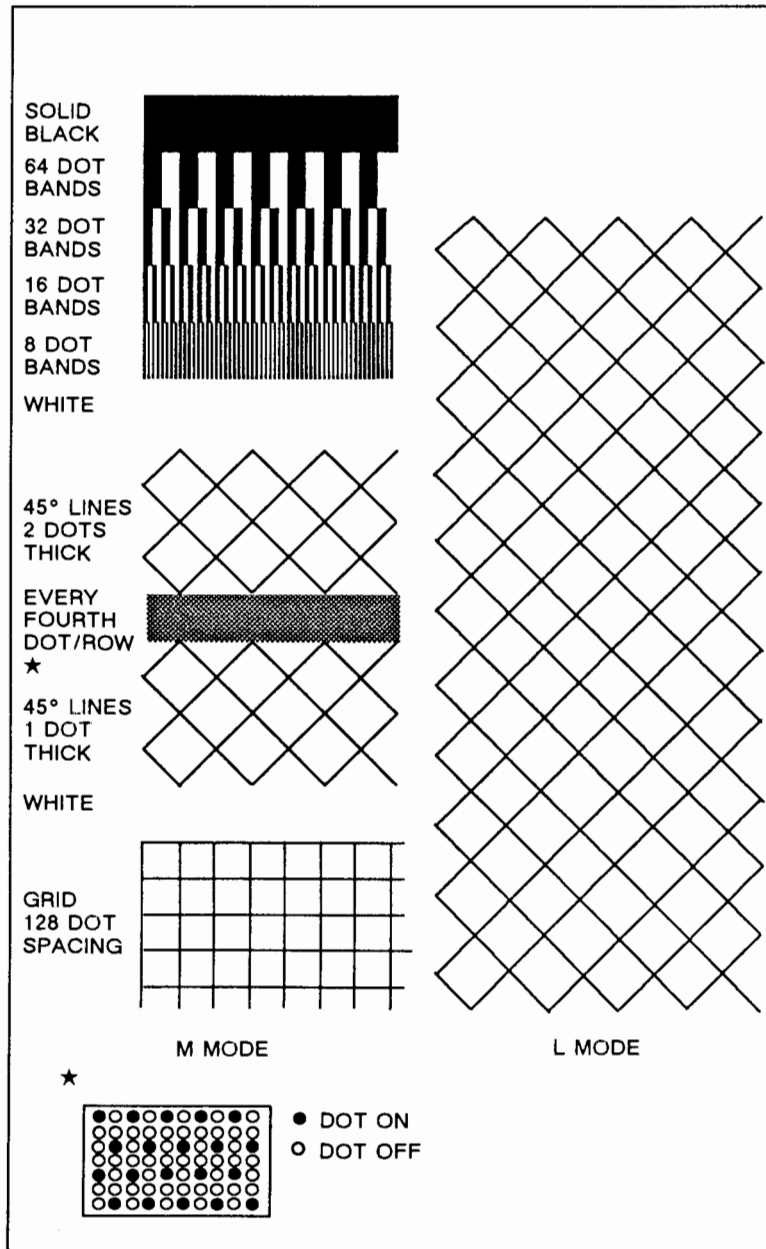

Figure 5-8. Print Engine Test Plots
- f. In a few seconds the plotter will begin to print a test pattern on the media. The pattern will be determined by the setting of the TEST L/M switch. See Figure 5-8 for samples of the test plots.